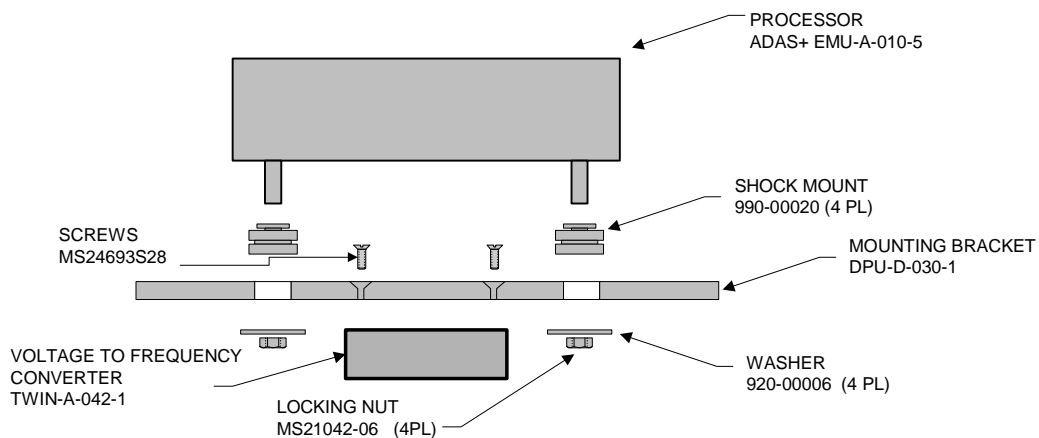

Figure C- 11: Processor Mounting Configuration
For the System Processor installation (Figure C- 11), perform the following inspections:
- 030 Disassemble the ADAS+ processor from the mounting bracket shown in Figure C- 11.
- 040 Assemble the ADAS+ processor to the mounting bracket shown in Figure C- 11. Ensure that the processor does not interfere with wiring or controls.